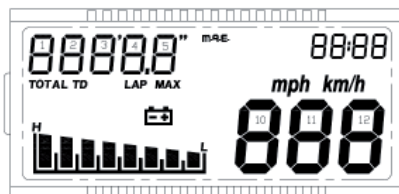

Fig. 18
- 2rd page (every time the instrument is switched on): Check of all lcd segments for approx. 3 seconds (fig. 18).